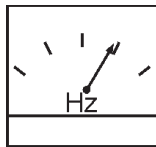

Figure 44. Frequency Meter
- The generator's frequency meter (Figure 44) should be displaying the 60 cycle output frequency in **HERTZ**.